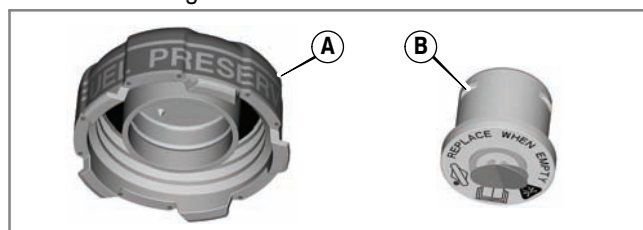

Figure 4
Some engines are equipped with a Fresh Start fuel cap (A) (Figure 4). The Fresh Start fuel cap is designed to hold a cartridge (B), sold separately, that contains fuel stabilizer. Install the cartridge as follows: